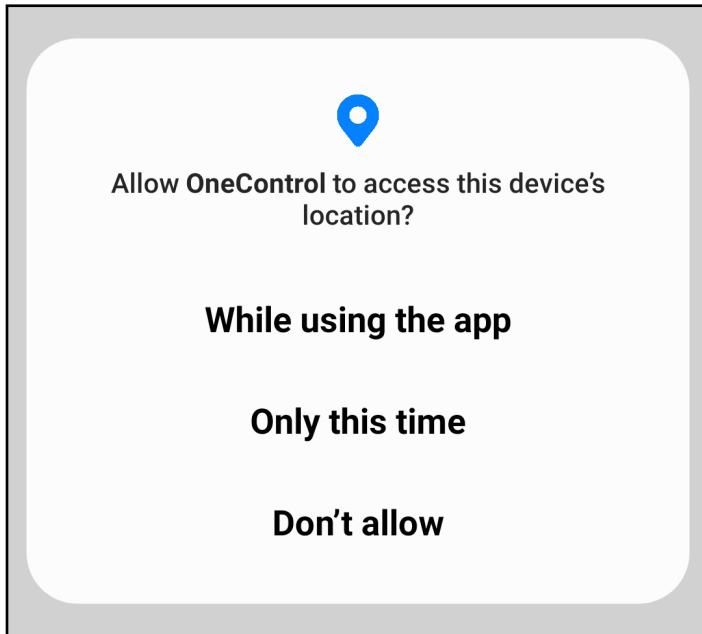

Fig.4
5. Accept any permission requests that appear on your smart device screen (Fig.4).